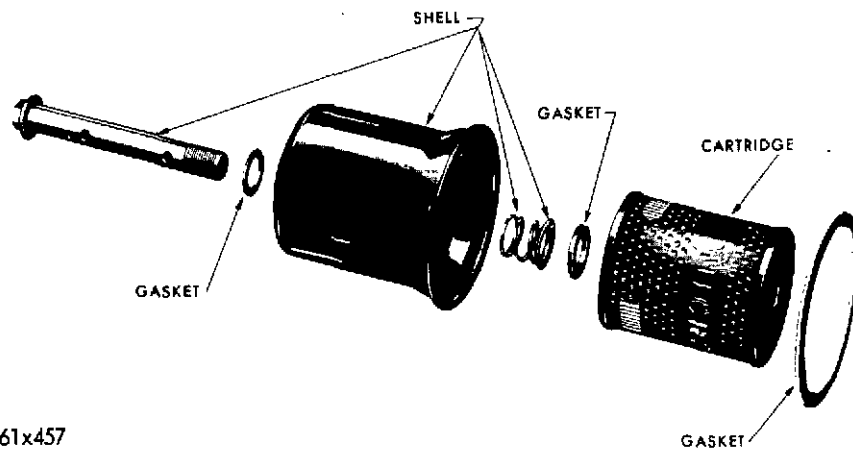

Figure 36 — Engine Oil Filter (Replaceable Element Type)
**TO REPLACE FULL-FLOW FILTER ELEMENT (Figure 36):**